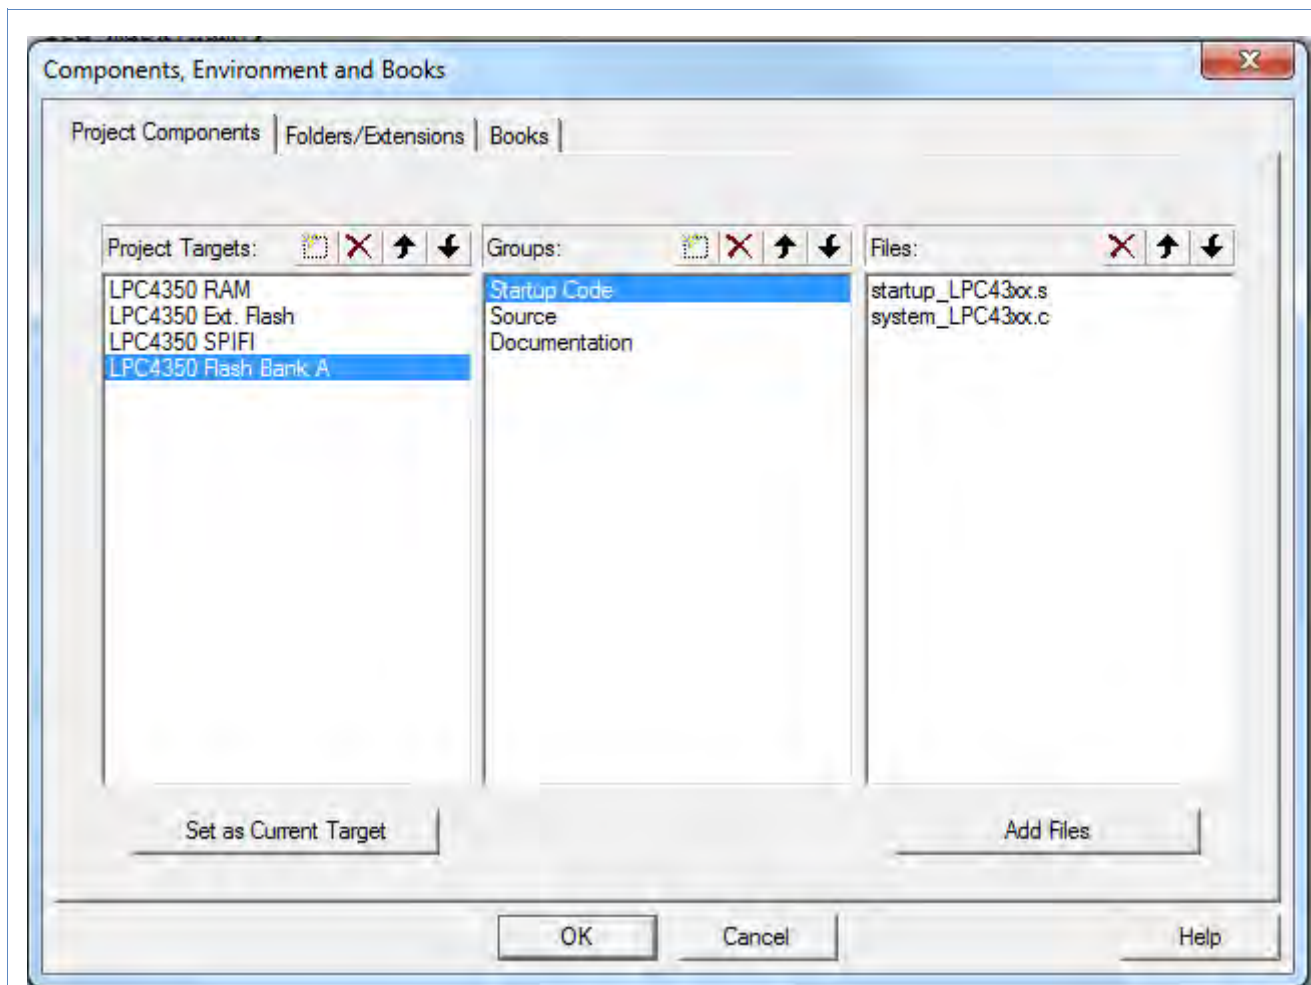

Fig 2. Managed Components window
- Components, Environment and Books window pops up with Project Components tab active. In Project Targets option, click New (Insert) button , type 'LPC4350 Flash Bank A' and press Enter. It is added into Target option list as shown in Fig 2. Click OK when done.